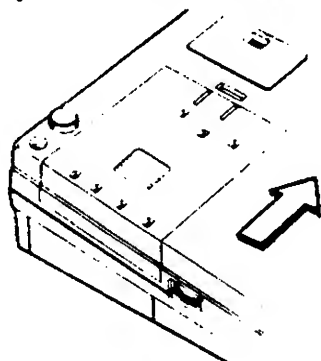

Figure 930-7 Replacing Battery Pack
8. Snap the top of the battery case in place. Install the battery case as shown in Figure 930-7.